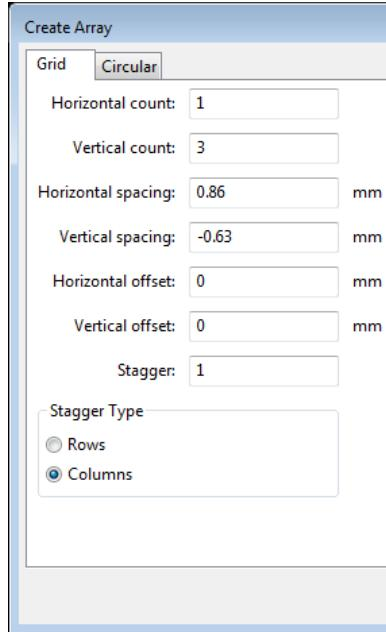

Figure 36: Array setting for pad type 1.
- a) Right click on the pad created above, select “Create Pad Array” (shortcut “ctrl+N”). Set up the “Create Array” dialog box according to Fig. 36. Leave the numbering settings to their default values.